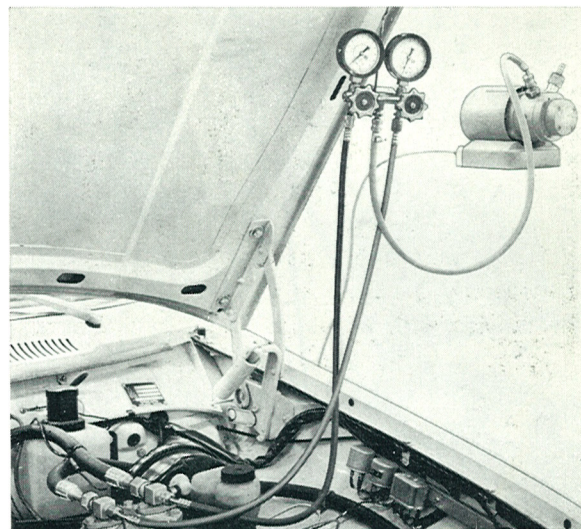

Fig. 8-97. Connecting vacuum pump
2. Connect the low-pressure gauge hose, the blue one, to the suction side of the compression (marked "suction" on top of the compressor), and the high-pressure gauge hose, the red one, to the discharge side (marked "disch"). The middle white hose is connected to the suction side of the vacuum pump (Fig. 8-97).